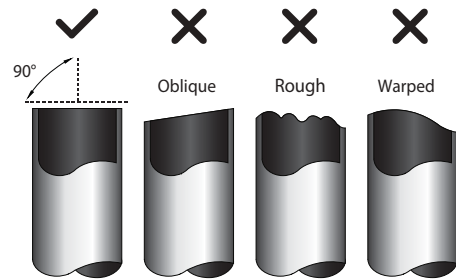

Fig. 7.4
1. Ensure that the pipe is cut at a perfect 90° angle. Refer to Fig. 7.4 for examples of bad cuts.